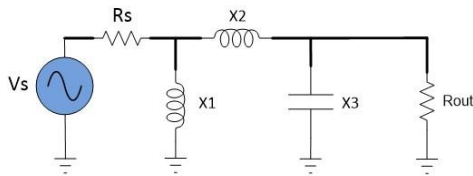

Figure 16: $\alpha + \theta < 90$
2. This white paper design used a higher load resistance than the source. When the source resistance is higher than the load, the designer can still use these equations. But, the designer must reverse the source reactance, X_1 , and the load reactance, X_3 , in the **Figures 16 - 18**.